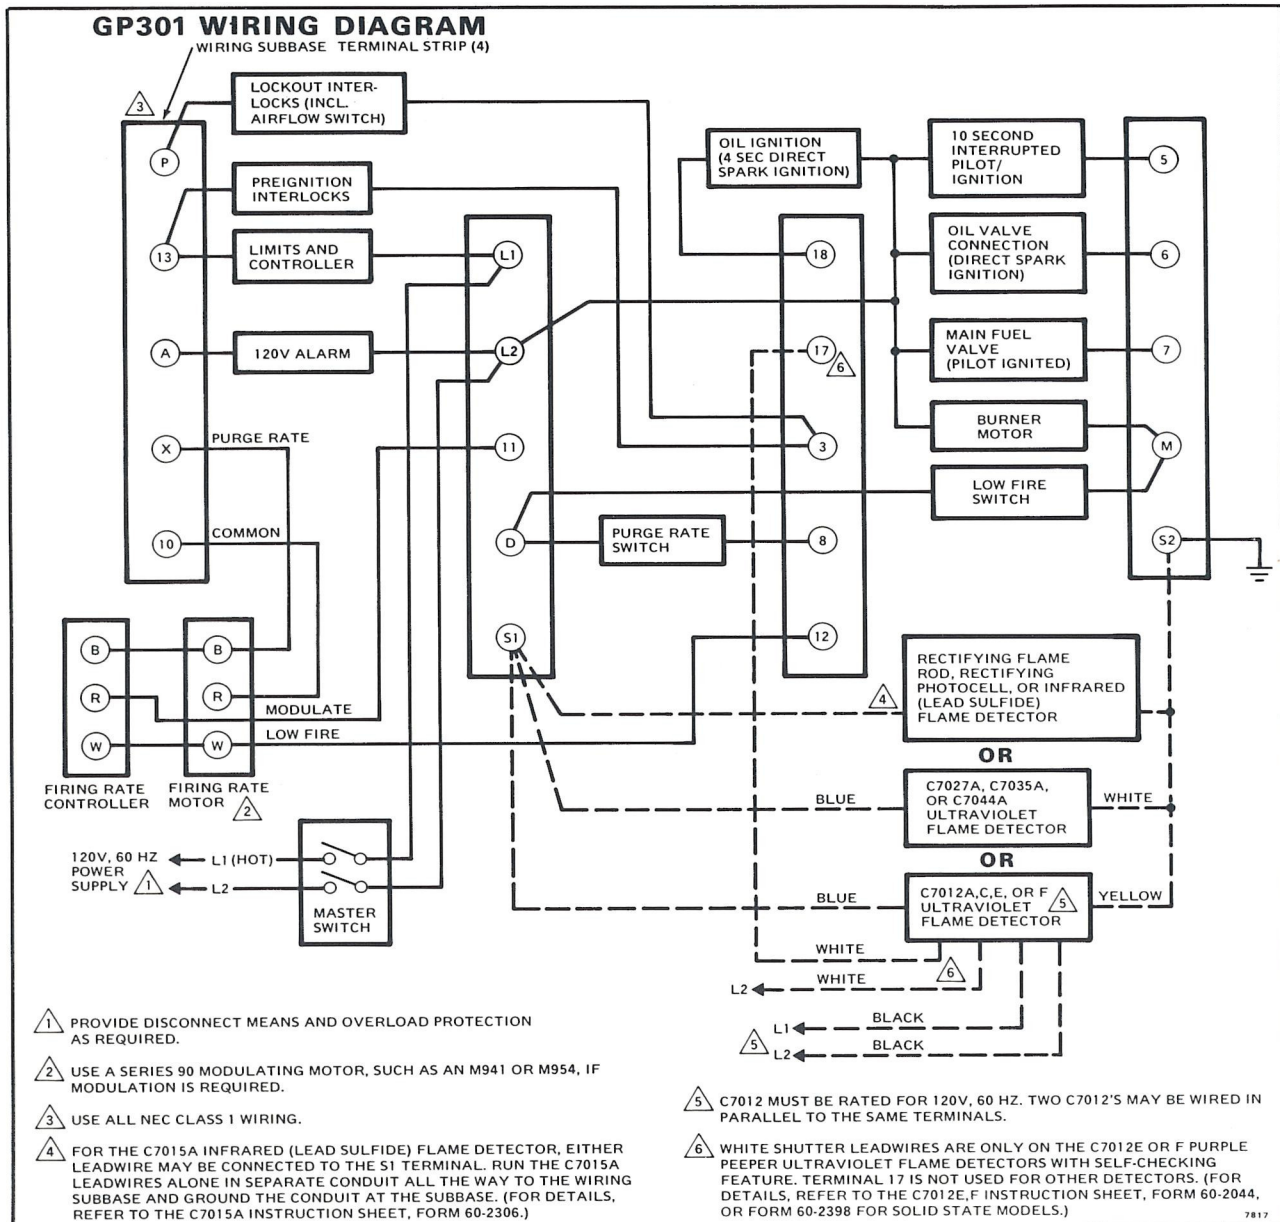
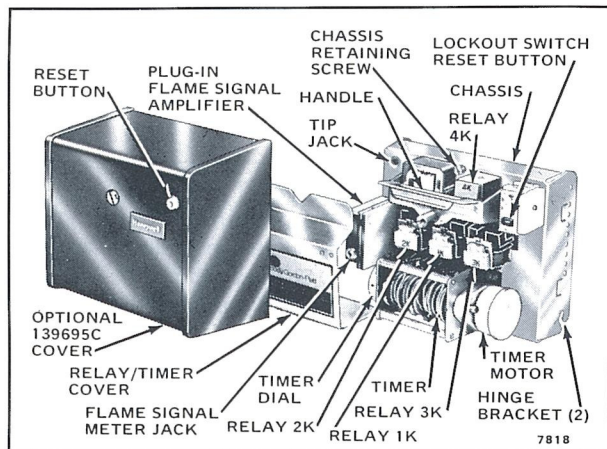

Fig. 4—Sample block diagram of field wiring for the GP301 Programmer.
Fig. 8—Components of the GP301 Programmer.
### WIRING TO SUBBASE (FIG. 4)
5. Refer to Fig. 4 for typical field wiring connections. Follow wiring diagram if provided.
Refer to Fig. 4 for terminal locations, and to Fig. 8 for locations of component parts.
7. Lockout switch is reset (push in lockout switch reset button, Fig. 8).